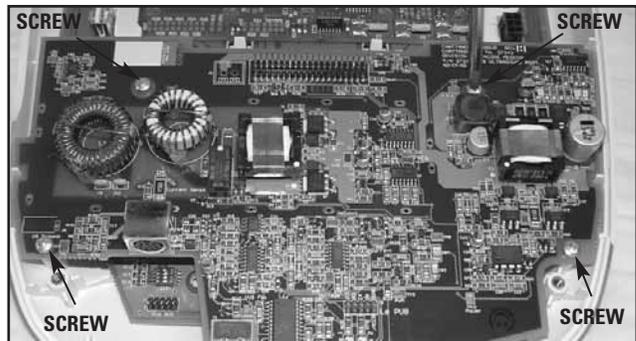

FIGURE 6.13
2. With #1 Phillips screwdriver remove the 4 screws securing the Ultrasound Board to the unit. See Figure 6.13.